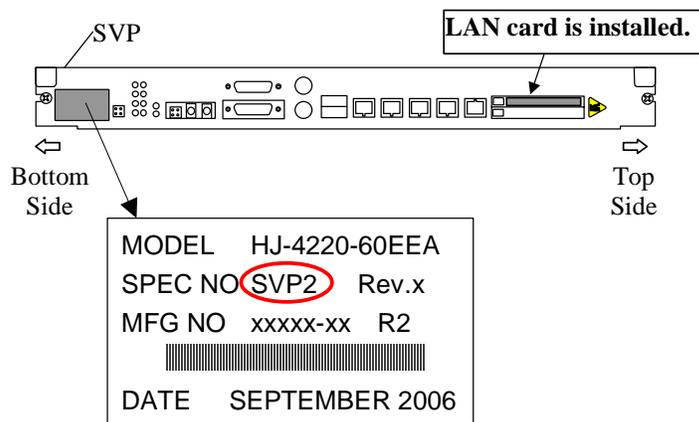
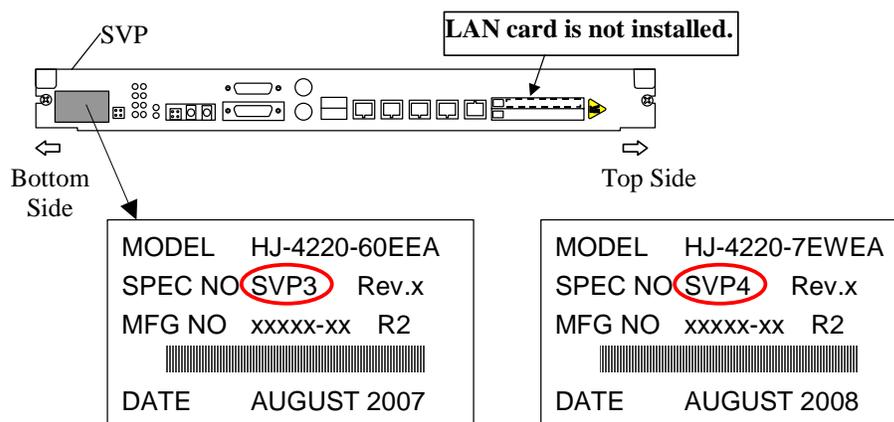

Fig. T7.1-1 In case of SPEC NO SVP2
Fig. T7.1-2 In case of SPEC NO SVP3 or SVP4
When replacing SVP, pay attention to the following. Installation of LAN card varies with SPEC NO in Fig. T7.1-1 or Fig. T7.1-2.
(1) Fig. T7.1-1 in case of SPEC NO SVP2
(2) Fig. T7.1-2 in case of SPEC NO SVP3 or SVP4